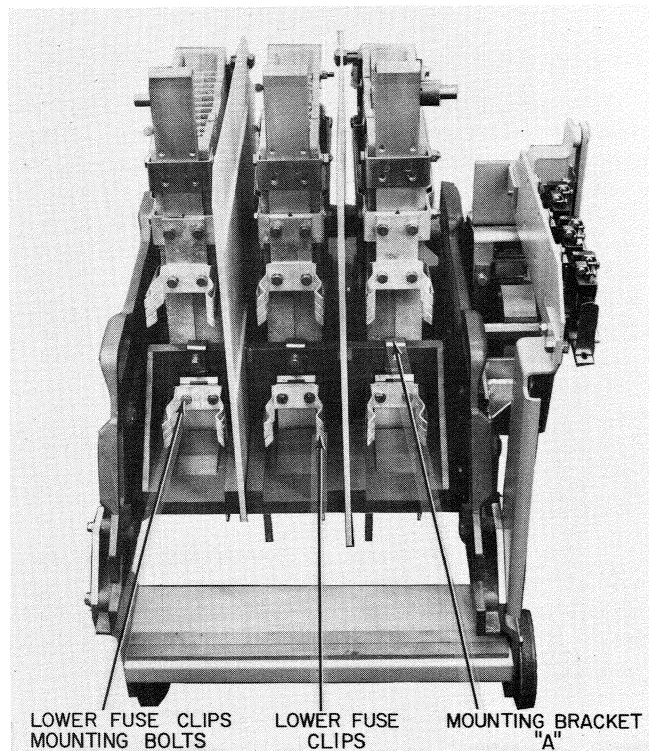

Fig. 26. IC2814E250 contactor with wheel kit
2. Remove the bolts that mount the lower power fuse clips and mounting bracket "A" as shown in Fig. 26.